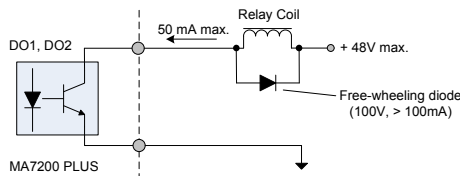

Fig. 4.2.2 Opto-Coupler Connected to an External Relay
- When the digital multi-function output terminals (DO1, DO2) are connected to an external relay, a freewheeling diode should be connected across the relay coil to prevent an inductive voltage spike from damaging the output circuitry as shown in Fig. 4.2.2 below.